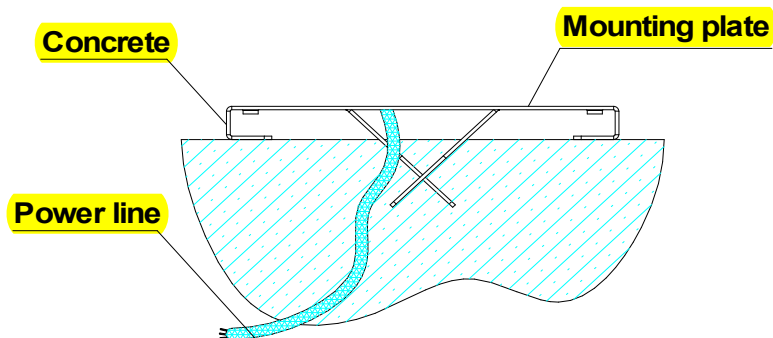

Figure 5
- c) Please unlock the main machine before installation, the unlock method is: take out the key cover, insert the key to open the manual release bar till it opens to 90° as shown in Figure 5. Then rotate the output gear and the gear can be rotated easily.